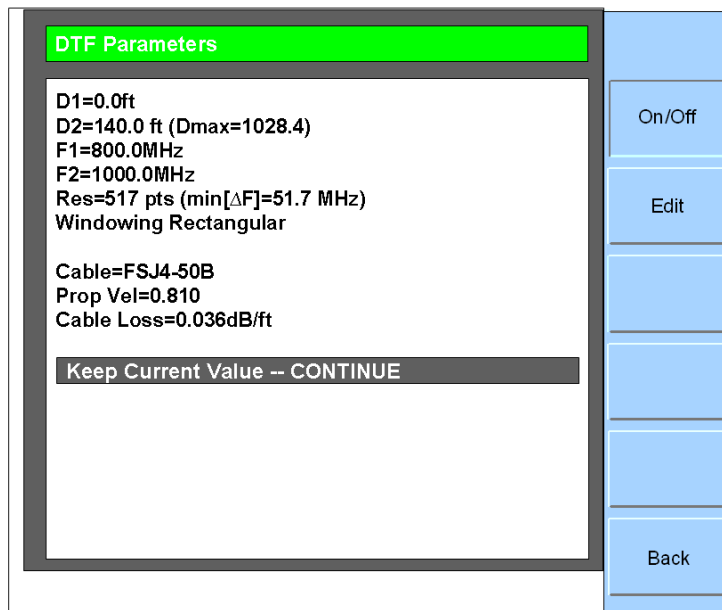

Figure DTF-1.DTF Parameters
3. Set the Distance (refer to Figure DTF-1)